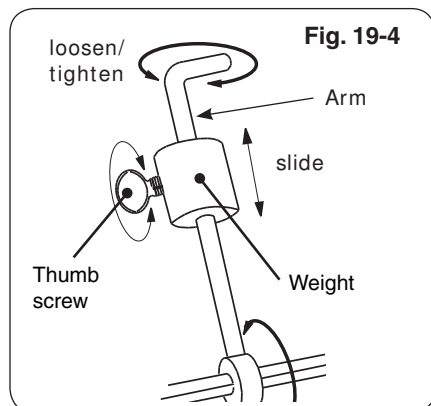

Fig. 19-4
9. Slide the counterbalance weight up or down the arm until the rod rotates most evenly then tighten thumb screw (Fig. 19-4 and Fig. 19-5).